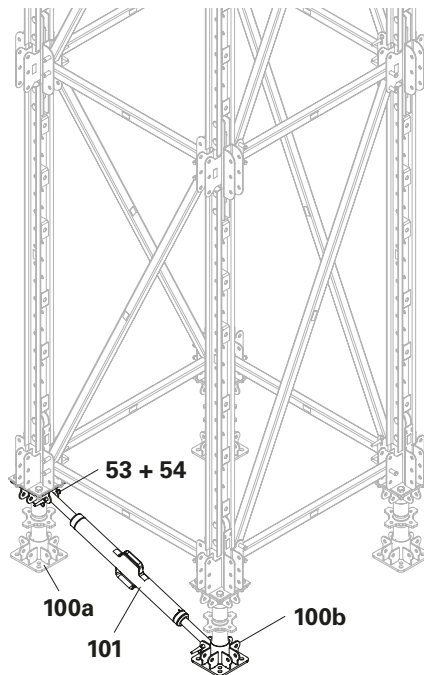

Fig. A1.22
6. Mount the Heavy-Duty Spindle SLS 100/180 (**101**) on one side at the top of the Spindle ATS 360-550 (**100a**) and on the other side at the bottom of the Spindle ATS 360-550 (**100b**) using 1x fitting pin  $\varnothing$  21 x 120 (**53**) respectively and secure with cotter pins 4/1 (**54**). (Fig. A1.22 + A1.22a + A1.22b)